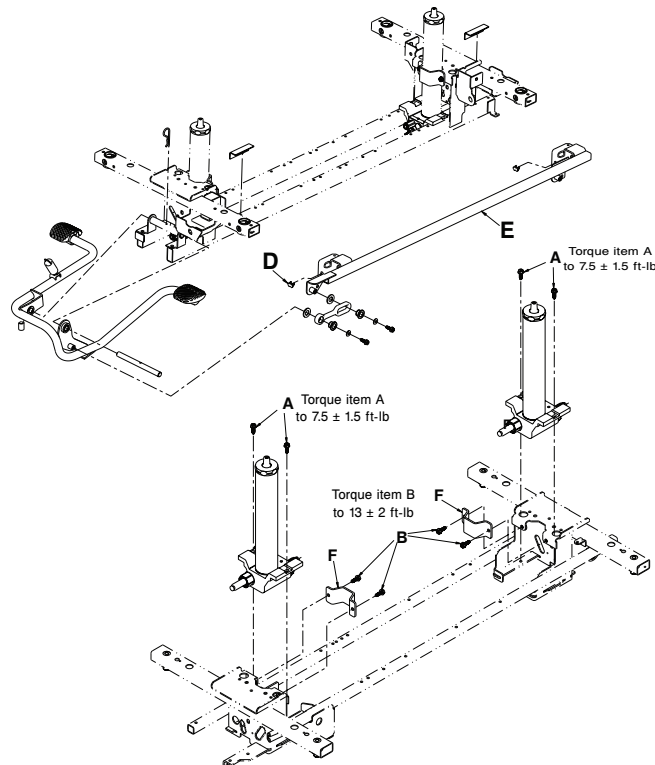

Figure 11 – Replace the jack
4. Using a 1/2" socket with a 3/8" drive extension and a 3/8" drive ratchet, remove the two hex washer head screws (B) that secure the jack and reservoir clamp (F) to the base weldment (Figure 11). Remove the jack and reservoir clamp. Save all parts.